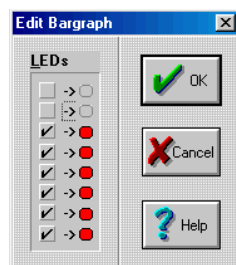

FIG. 16 Edit Bargraph dialog
1. Open the overlay and double-click the target bargraph to open the Edit Bargraph dialog shown in FIG. 16.
2. Click to remove the checkboxes adjacent to the LED indicators to be removed. Then, click OK to save the bargraph settings, close the dialog, and return to the main window. Checkmarks indicate the bargraph indicators will appear on the active overlay. FIG. 16 shows the first two LED indicators disabled, and they will be removed from the active overlay.